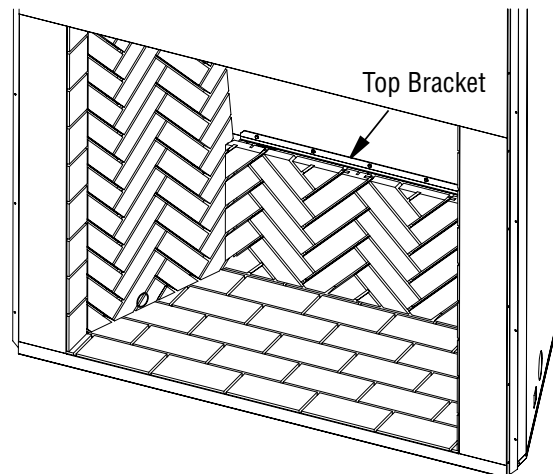

Figure 31 - Installing Bottom Rear Wall
4. Install the bottom rear firebrick wall. Place the wall face side down on the hearth with the bottom of the wall toward the rear of the firebox and the top toward the front of the fireplace. Tilt the wall up toward the back of the firebox. Secure bracket at top of the firebrick wall to the rear firebox surround (Figure 31).